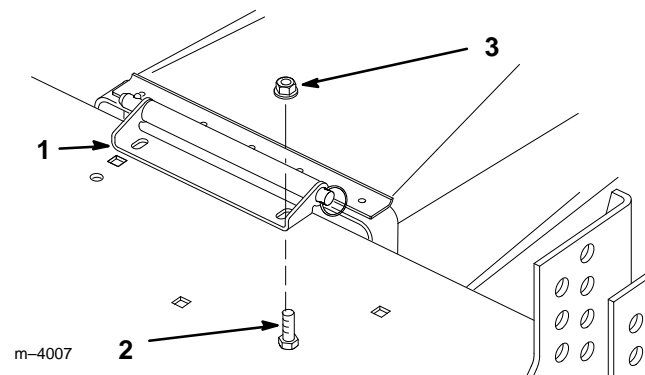

Figure 11
7. Mark, center punch, and drill (2) 17/64" (6.5 mm) holes on top of mower, using the hinge bracket as a template.
8. Secure the hinge bracket to the mower with (2) 10-24 x 1/2" (13 mm) screws, through from the bottom of mower, and (2) 10-24 locknuts (Fig. 11).
6. Tilt the mower up on its nose and slide the chute into position against the rear of the mower over the discharge area (Fig. 11).